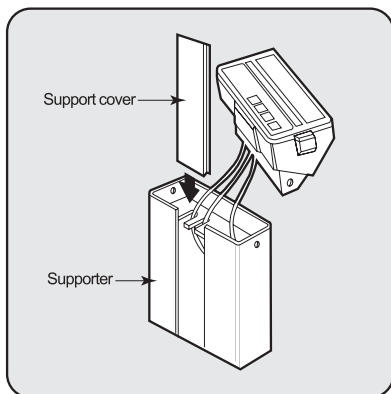

fig. 3
3. Insert the support cover into the support as fig 3.